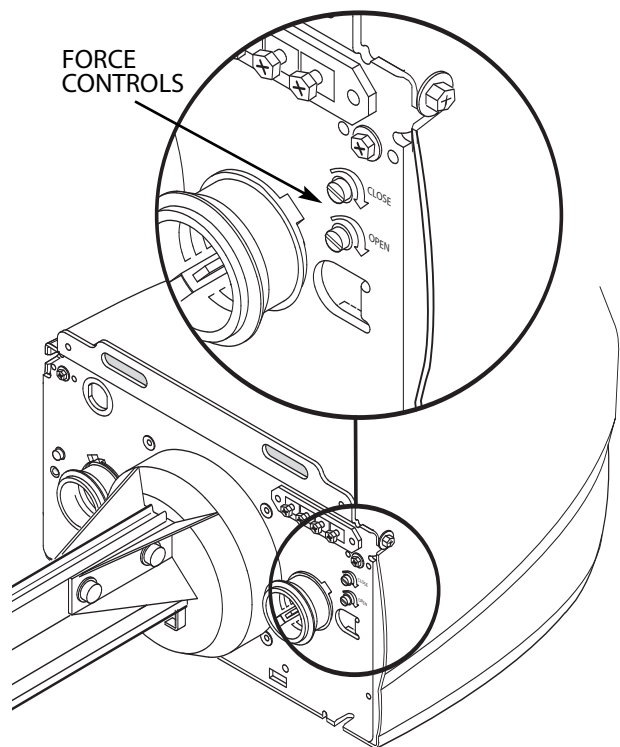

Figure 9 Making Force Adjustments
A Setting Close Limit Switch (Figure 9):
- On front panel of Power Head find adjusting screw marked "CLOSE" (Figure 9).
- On front panel of Power Head find adjusting screw marked "OPEN" (**Figure 9**).